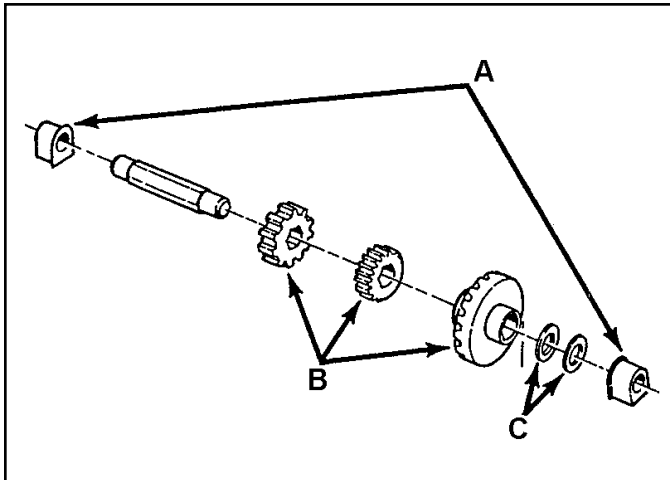

Fig 128
1. Slip an intermediate shaft bushing onto the left end of the intermediate shaft, flanged end first (Fig. 128).